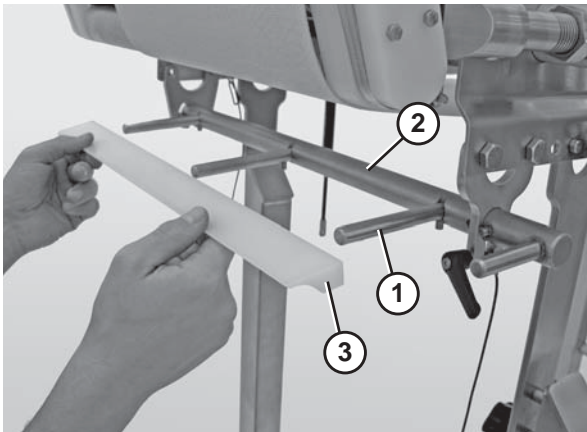

Figure 26
- Attach the scraper bar holders (Figure 26, item 1) to the scraper shaft (Figure 26, item 2).
- Attach the UWHM scraper (Figure 26, item 3) to the scraper bar holders (Figure 26, item 1).